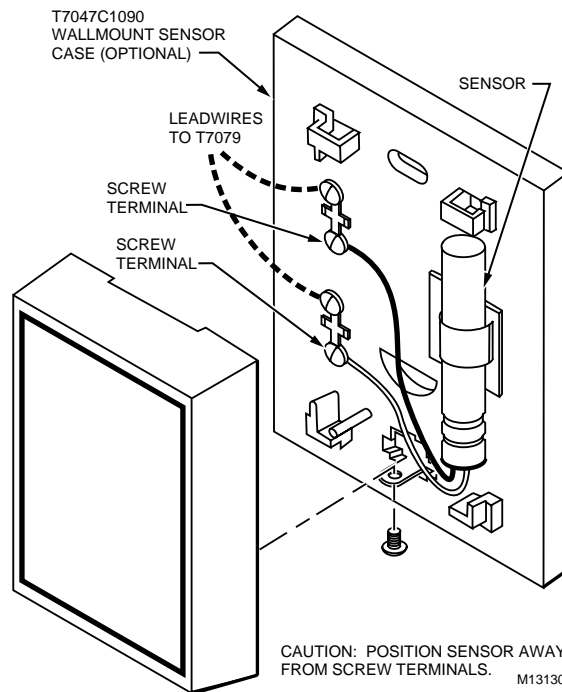

Fig. 4. Wall-mounted sensor.
- Space temperature sensing: Mount on a wall or panel (see Fig. 4).